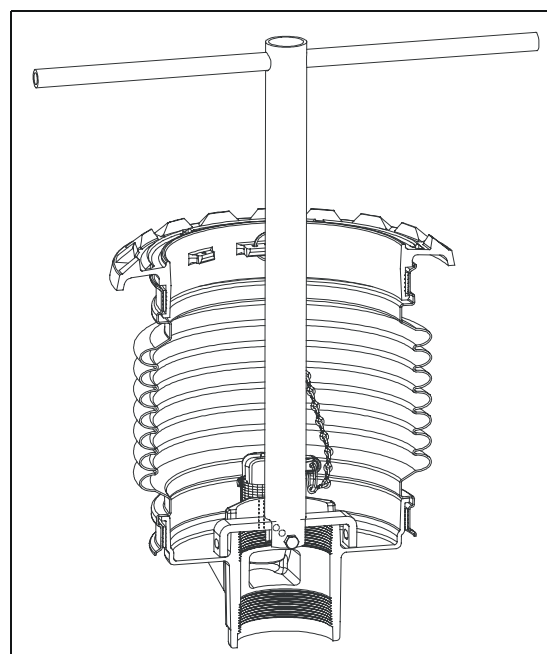

Figure 2
- 1.) Remove the rotatable adaptor socket from the base bar by taking out screw "B". The finished assembly should be as seen in Figure 2.